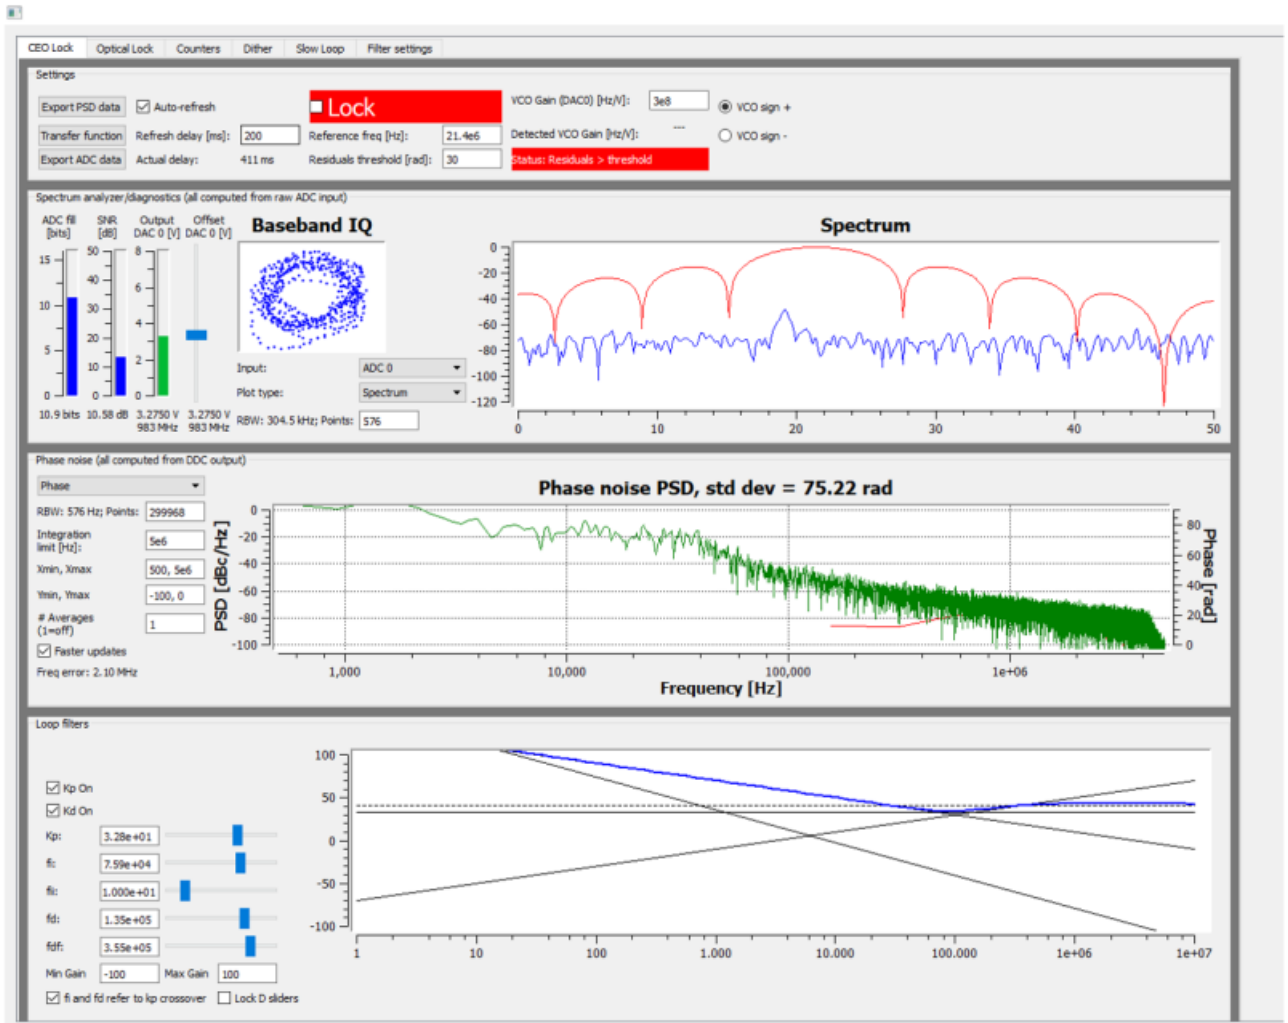

Fig. 5: Centering  $f(\text{CEO})$  on reference frequency (Baseband IQ optimization)
1. Navigate to the “CEO Lock” tab and adjust the “Offset DAC 0” slider near the top left by clicking and dragging the slider until the the data in the Baseband IQ plot is circular (figure 5). This centers the beat note near the reference frequency. It is also possible to adjust the FFC-100 oscillator current on its front panel to make this adjustment.